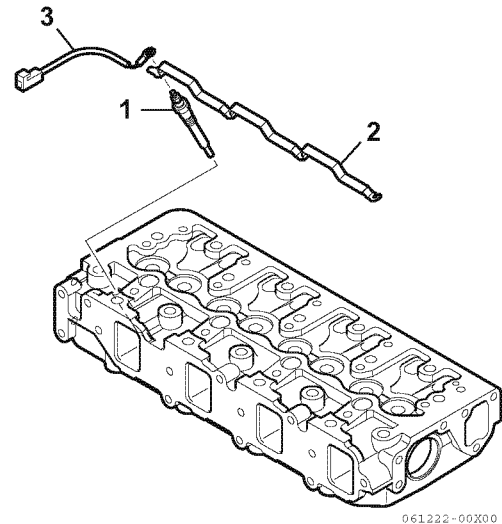

Figure 6-36
6. Install each glow plug (**Figure 6-36, (1)**), and tighten it with the specified torque. Install each electrical harness (**Figure 6-36, (2), (3)**), and tighten it with the specified torque.